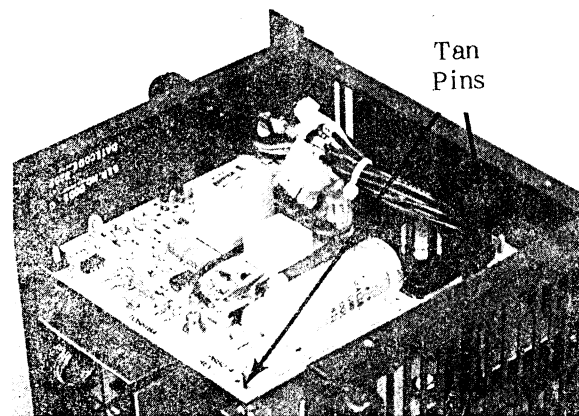

FIGURE 15
02.24 Align the two tan-colored PBPU pins with the two holes in the mounting bracket (Figure 15). Press the pins into the holes until they catch.